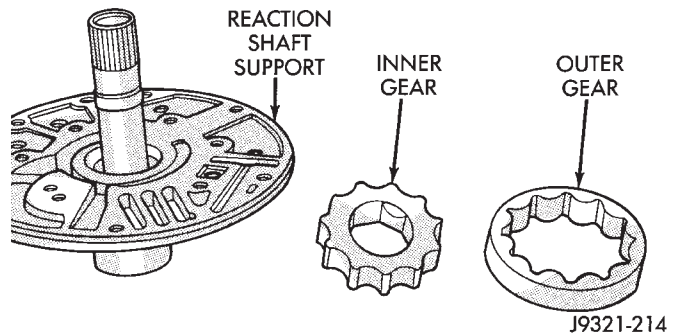
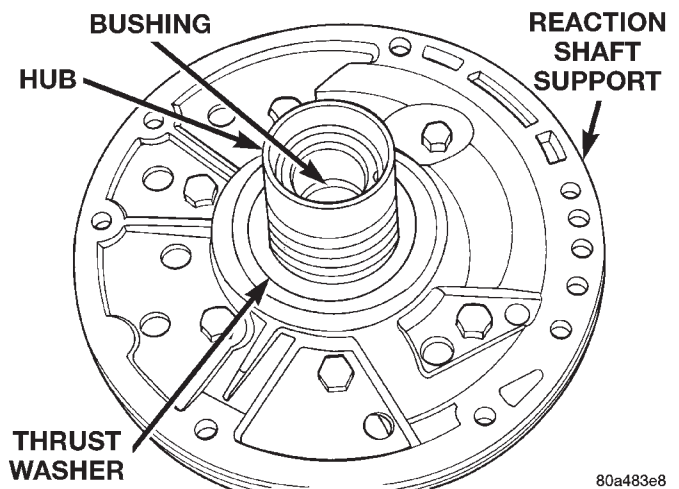

Fig. 121 Pump Gear Removal
Fig. 122 Support Hub Thrust Washer
- (5) Remove inner and outer gears from reaction shaft support (Fig. 121).
- (6) If pump seal was not removed during transmission disassembly, remove seal with punch and hammer.
- (7) Remove front clutch thrust washer from support hub (Fig. 122).